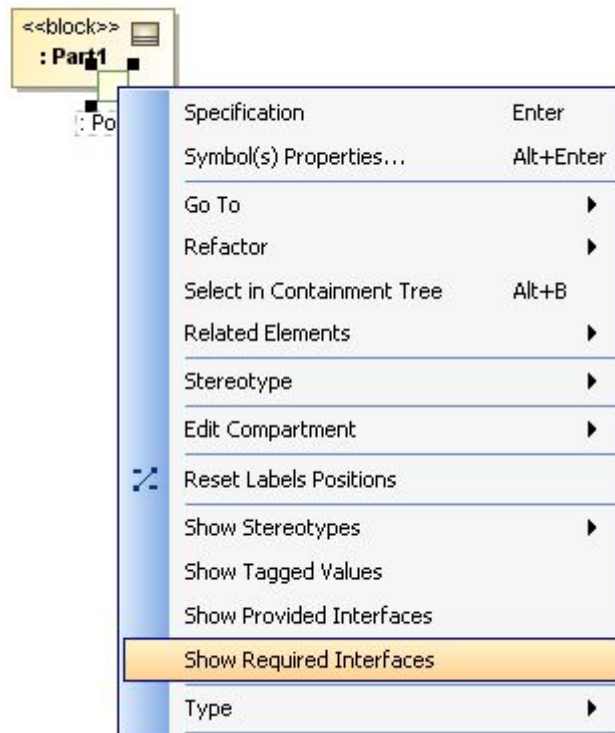

Figure 77 -- Port Shortcut Menu to Display Provided or Required Interface(s)
- select **Show Required Interfaces** or **Show Provided Interfaces** (Figure 77),or